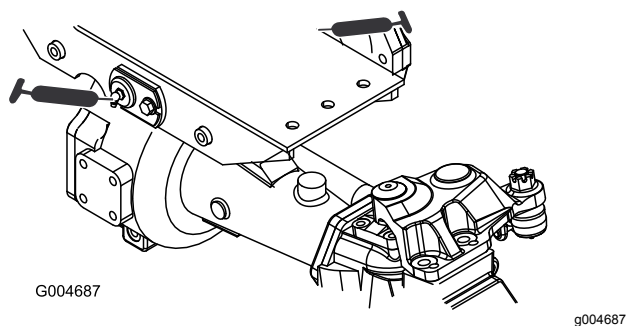

Figure 60
- 2 front and rear-axle-pivot bushings (Figure 60)